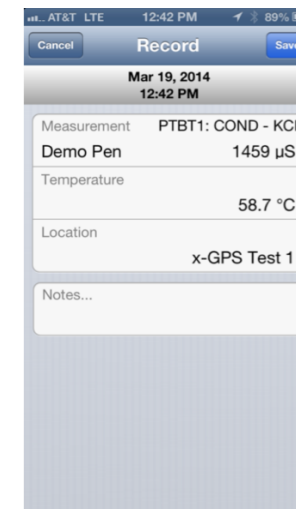

Figure 21
3. The App will display a screen showing all of the data for this measurement including (see Figure 21):
3. The App will display a screen showing all of the data for this measurement (see Figure 21).